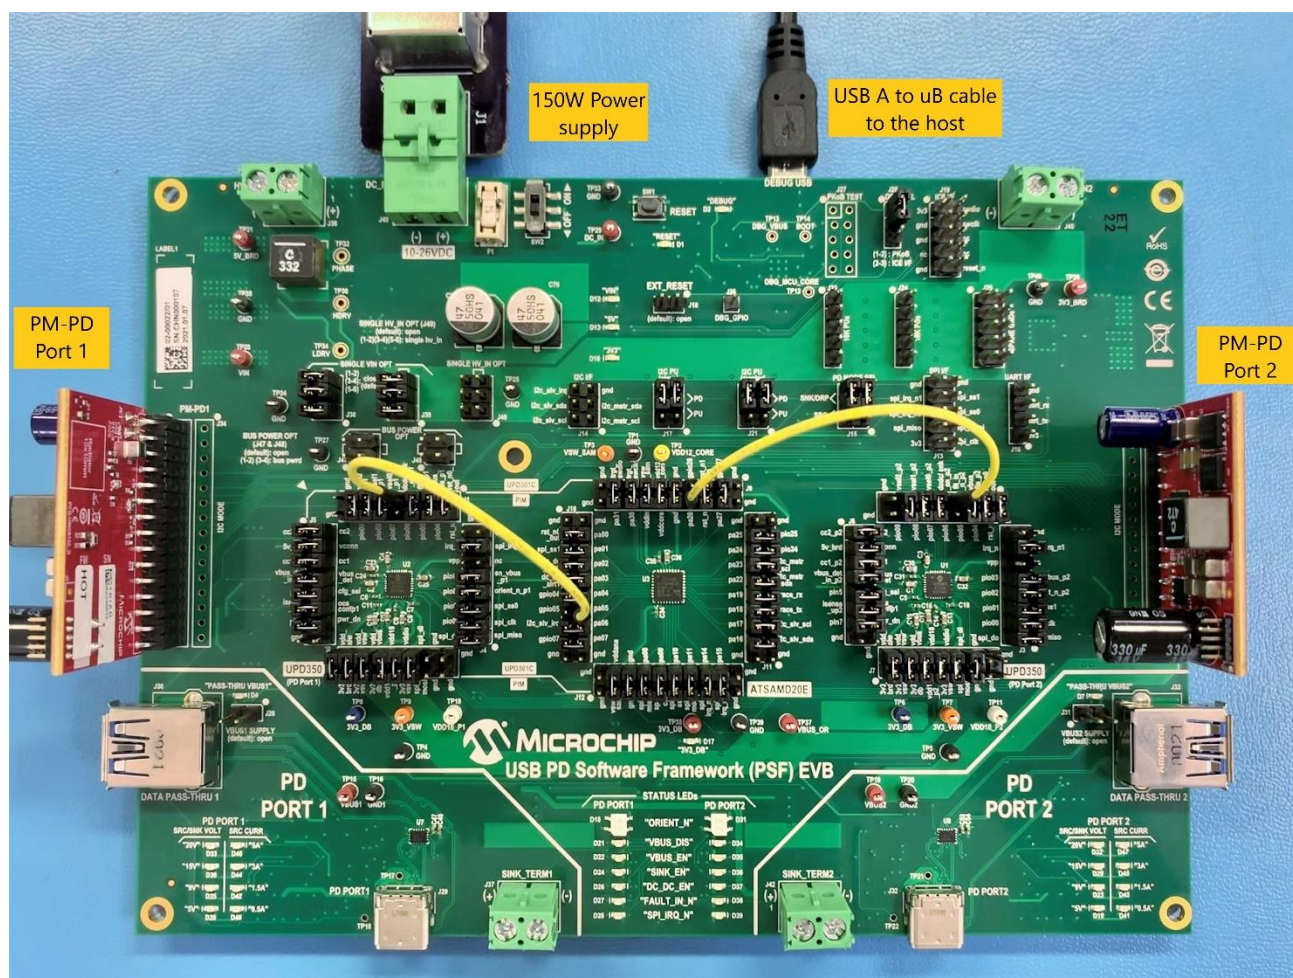

Figure 5.5 EVB-PSF Full Setup
7. The whole connection is shown in Figure 5.5,